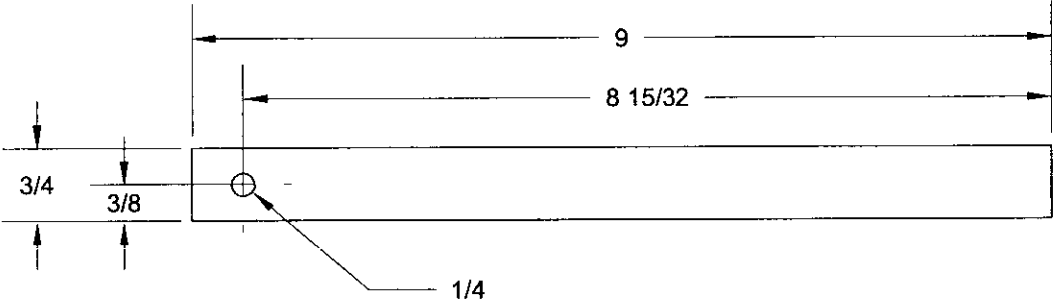

FIGURE 1: FABRICATE MEASURING JIG
Step 1: Fabricate a simple gauge from the dimensions given in Figure 1. Material is not provided in the kit.